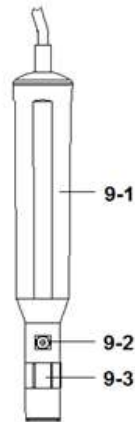

Fig. 6
- 1) Unscrew the " Probe head " (9-3, Fig 6).
- 4) Screw the " Probe head " (9-3, Fig 6) into the probe body.